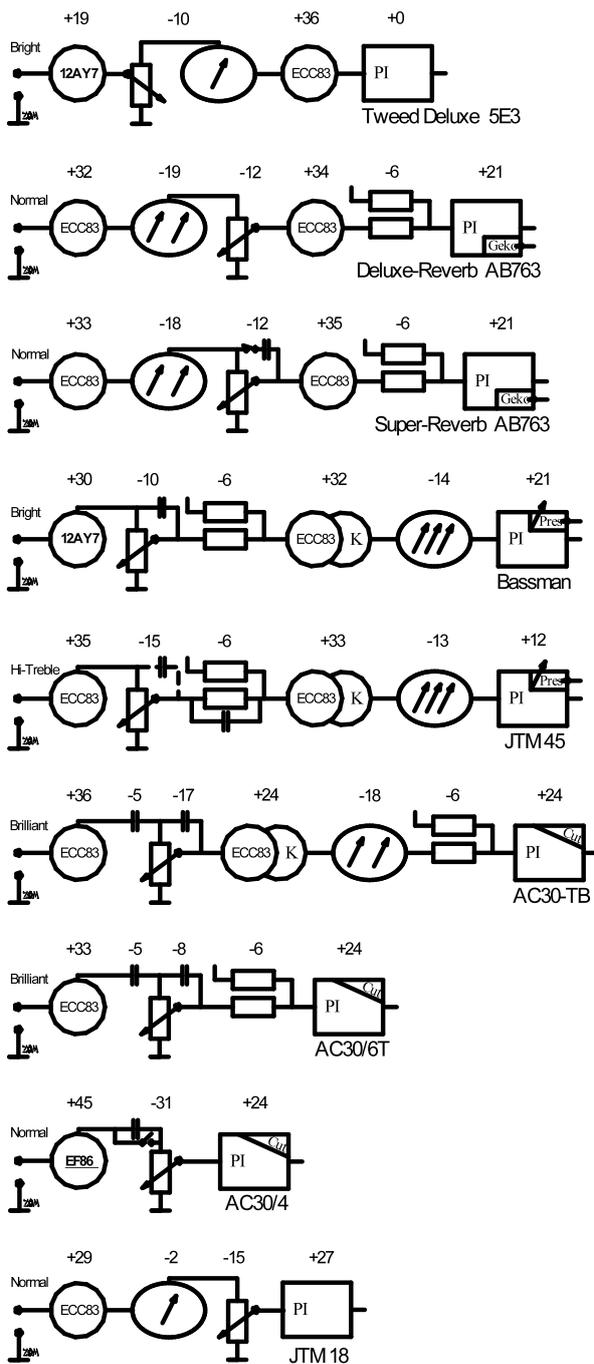

Fig. 10.10.3: Block diagrams
Fig 10.10.3 shows the block diagrams of some amplifiers; the differences in the sequence of stages are striking. The tone filter (the oval with arrows) is located after the first tube in one amp, after the second tube in another, and in some cases it is driven by a cathode-follower (two overlapping circles). In some amplifiers, the volume potentiometer is bridged with a capacitor that is switchable in some cases (Bright Switch). Coupling capacitors were only included here if they caused a very high lower cutoff frequency (VOX). Additional second channels are indicated via a resistor with a free end. The last stage included in the diagrams is the phase inverter (PI). The respective gain of each stage is indicated in dB and given at the standard setting ($f = 500$ Hz).